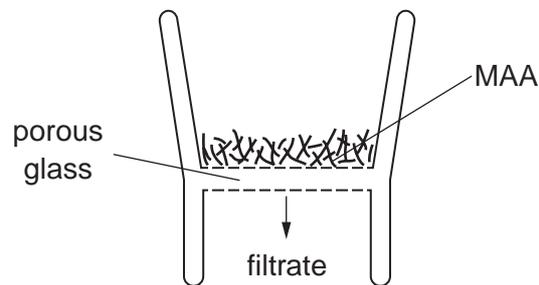

Fig. 1.2
- The MAA is then filtered into a sintered glass crucible (Fig. 1.2). A sintered glass crucible contains porous glass which retains the precipitate but lets the liquid through.